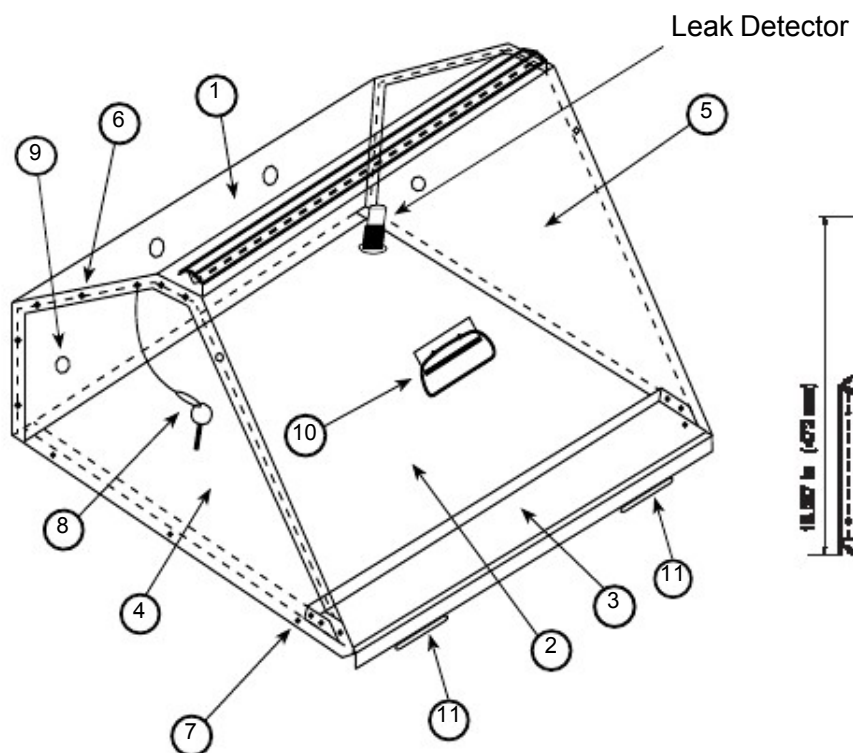

Figure 6-3
1. Attach fixed roof element (1) to side panels (4 & 5) using pan head Phillips screws (6). Place Side panels on inside of roof element. Screw from the outside in. Attach lanyards at this time. (see figure 6-3 on page 35 for location)
2. Place hinge panel (3), mobile roof element (2) and hinge (11) assembly onto side panels at lower front and screw from outside in using pan head Phillips screws (6). Fasten hinge panel to side panel lips (top down) using pan head Phillips screws (6).
3. Place assembled cover onto tank. Leak detector should be in rear right corner of tank when cover is open. (see figure 6-3 on page 35 for location)
4. Drill starter holes into top lip of tank at pre-drilled holes in sides and fixed roof element. Fasten cover onto tank using slotted hex washer head screws (7).